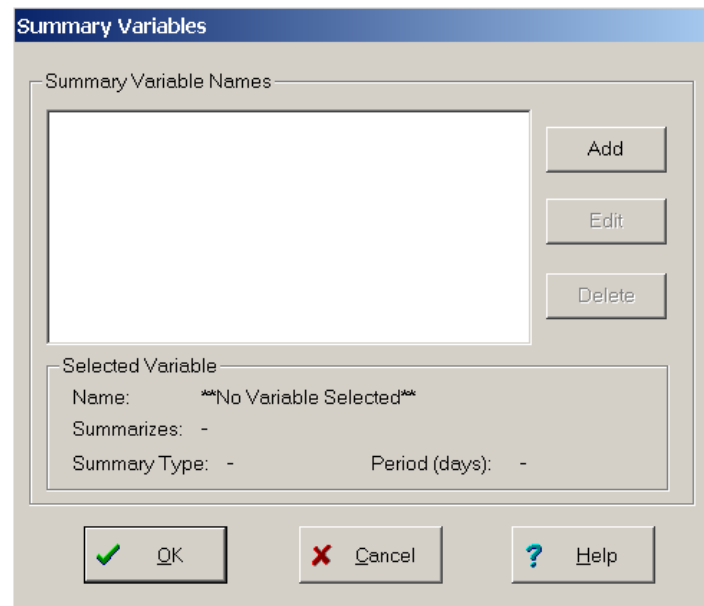

Figure 14.1 Summary Variables list Window
2. Select '**Model**' from the menu bar followed by '**Summary Variables...**' to obtain the Summary Variables list window (figure 14.1)